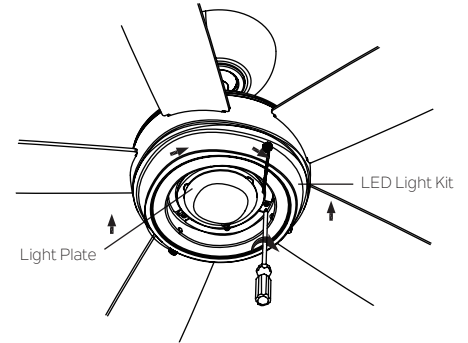

Fig. 20
Step 3. Assemble the LED light kit assembly to the light plate using the two key slots in light kit assembly. Replace the previously removed screw and securely tighten all three screws. (Fig.20)